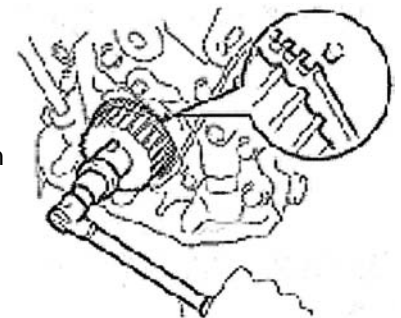

Figure 45
24. Install timing belt. See (Figure 45)